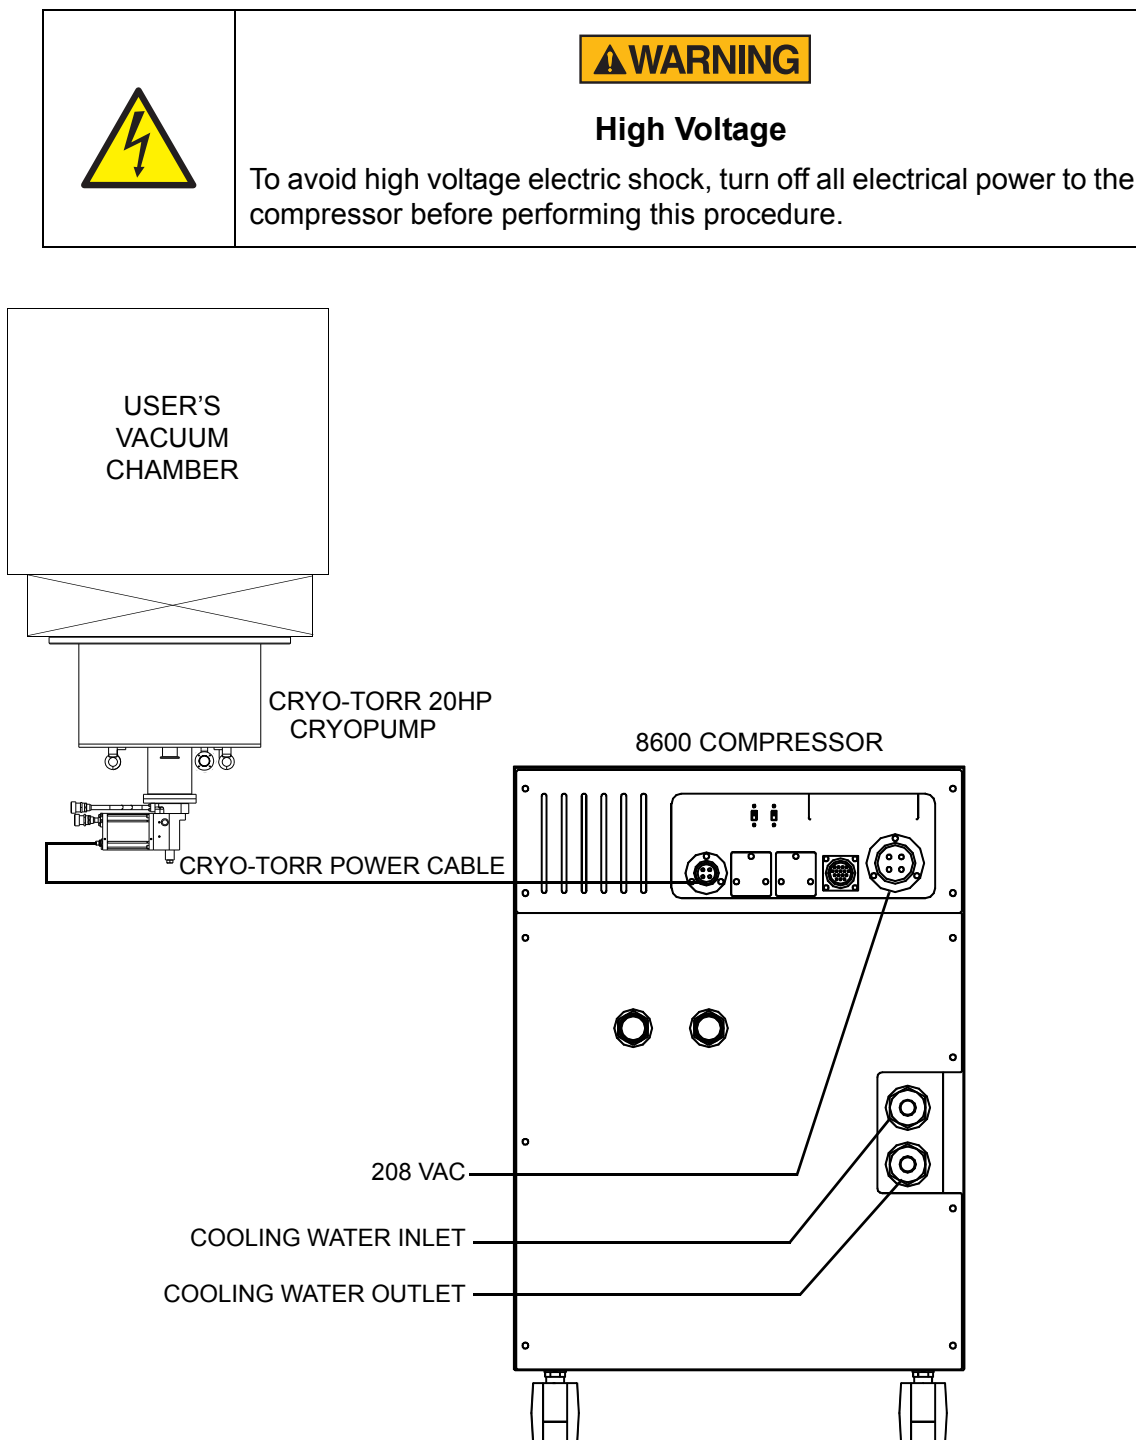

Figure 4-5: Cryo-Torr 20HP Cryopump Connections
1. Remove all dust plugs and caps from the Helium Supply Line and Helium Return Line and the 8600 Compressor and 20HP Cryopump Supply and Return connectors (see Figure 4-5 on page 4-14). Check for the presence of a flat gasket in the male connector and no gasket in the female connector. Make sure that the gasket is dust free.
The following procedure describes how to connect the Cryo-Torr 20HP Cryopump to the 8600 Compressor. Refer to Figure 4-5 on page 4-14 for connections described in the procedure.
2. Connect the appropriate end of the coldhead power cable to the Cold Head Power on the rear panel of the 8600 Compressor as shown in Figure 4-5.
3. Connect the opposite end of the coldhead power cable to the Cryo-Torr 20HP Cryopump cold head cable connector as shown in Figure 4-5.